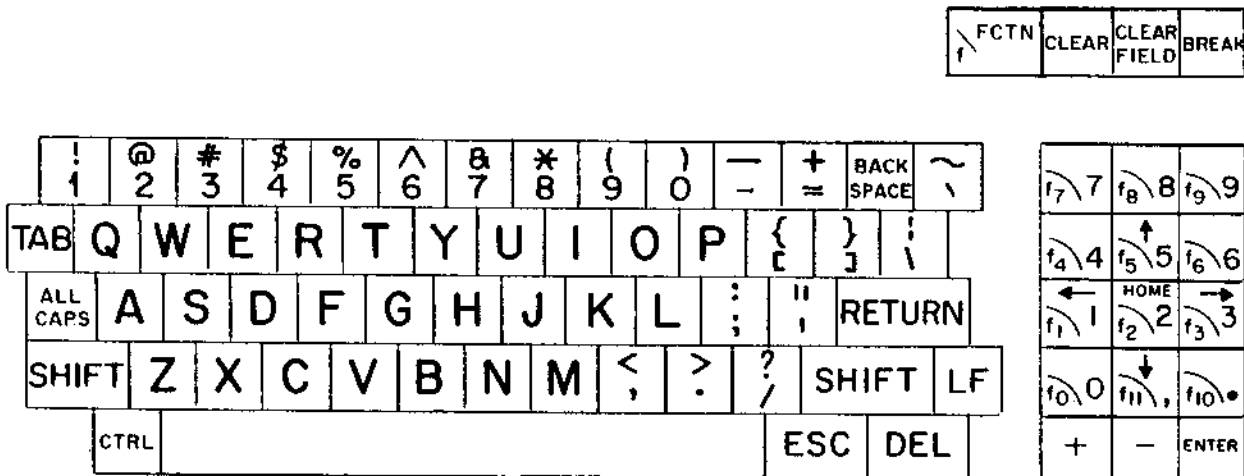

Figure 3-2. Keyboard
1. Baud rate and parity are determined by the switch settings at the time the terminal is turned on. To make a change after the terminal is turned on, reset the switches for the desired speed and parity and press the BREAK key (figure 3-2) to initiate the change.